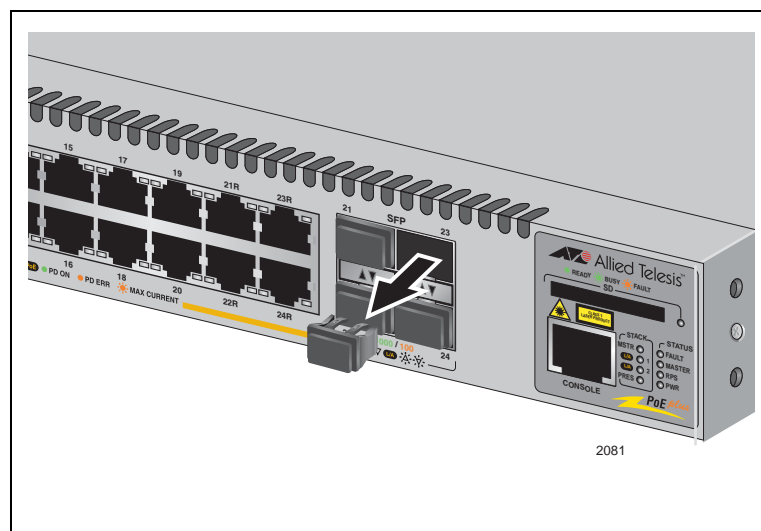

Figure 52. Removing a Dust Plug from a SFP Slot
1. Remove the dust plug from a transceiver slot on the switch, as shown in Figure 52.